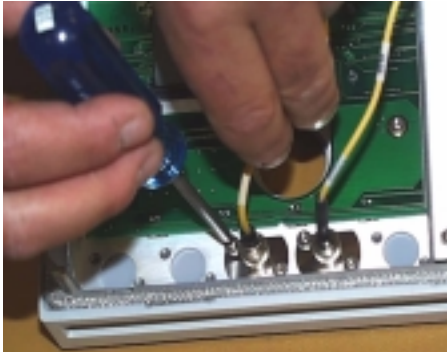

Figure 3-18. Removing the connectors (Left - Early model, Right - with new bracket assembly)
- 8 Using a T-10 TORX driver, remove the two screws and lock washers fastening each of the fiber-optic wire connectors to the inside of the front panel. See Figure 3-18 below.
- 7 Using a T-10 TORX driver, remove the two screws and lock washers fastening each of the fiber-optic wire connectors to the inside of the front panel. See Figure 3-18 below.